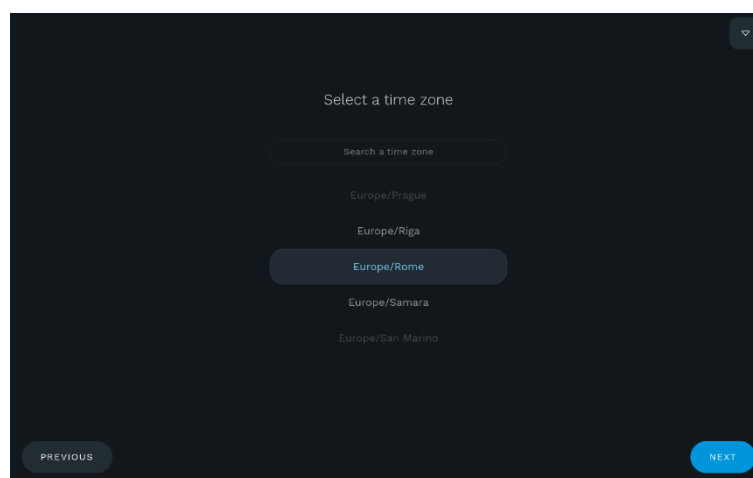

Fig. 18 – Time zone
5. Set the current time zone (Fig. 18). An initial time zone is suggested according to the selected country.